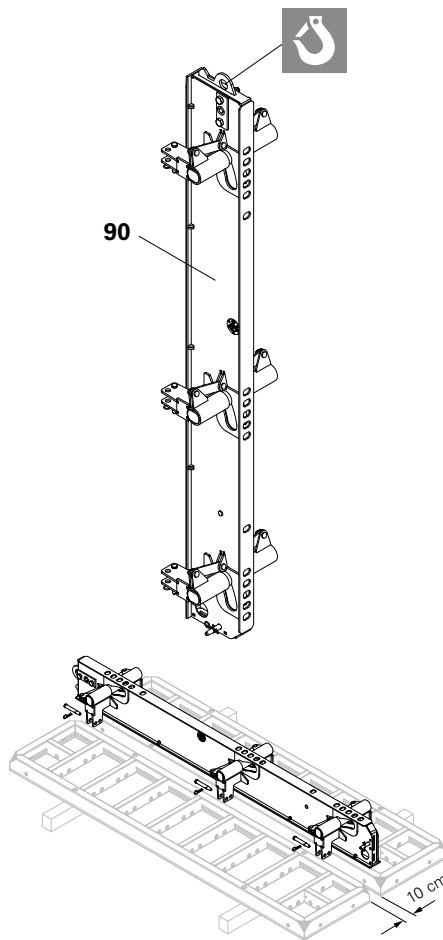

Fig. A17.01
1. Insert Shaft Element (90) between two TRIO panels. (Fig. A17.01)